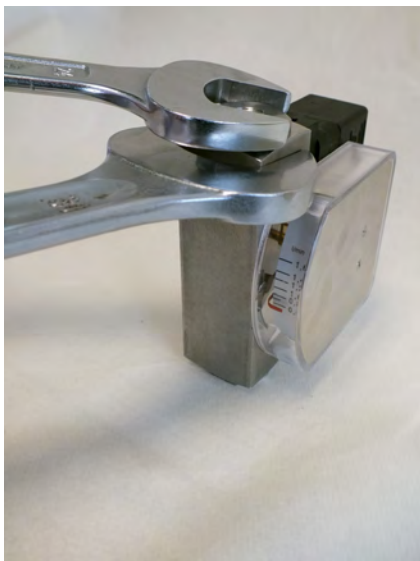

Fig. 60: Tighten process connection (outlet)
11. ➤ Using a proper sized fixed spanner tighten the process connection (outlet). Hold the device body in place using a suitable fixed spanner (Fig. 60), and observe the proper torque (*Chapter 11.1 "Tightening torque" on page 82*)